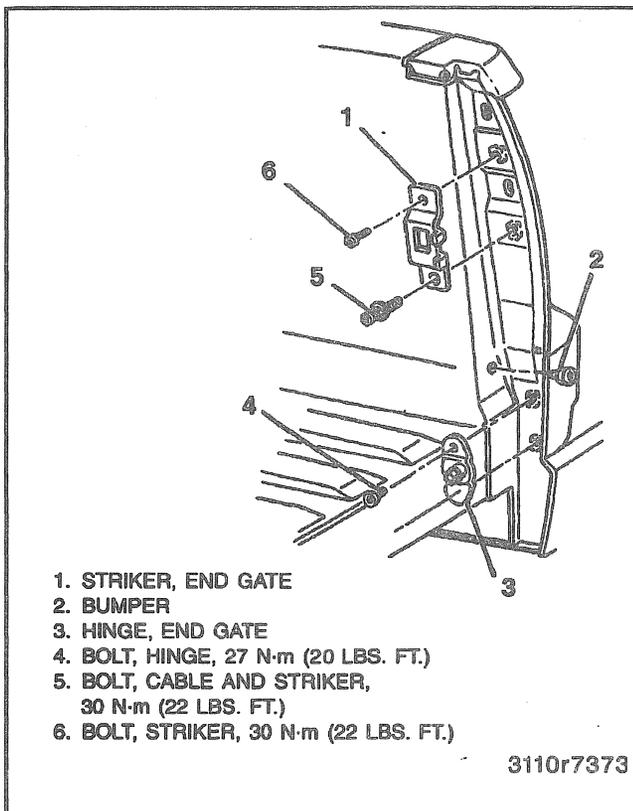

Figure 2—Side Panel Striker and Hinge Components
2. Cable on each side onto the side panel striker bolts (Figure 2).
Remove or Disconnect (Figure 2)
Install or Connect (Figure 2)